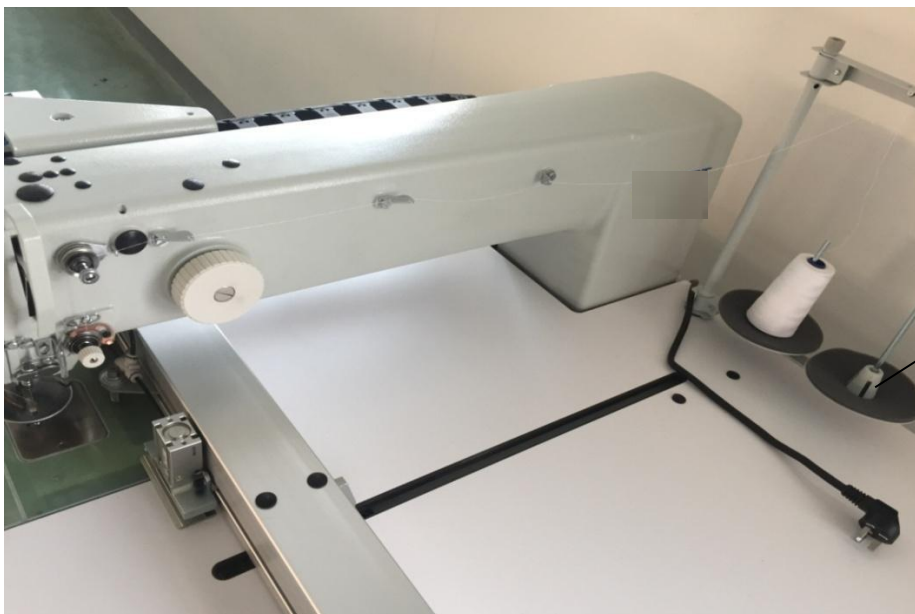

Fig 3
See figure 3 first, insert the wire ball 1 into the wire rack
2. put the wire through according to figure 3 figure 4 and figure